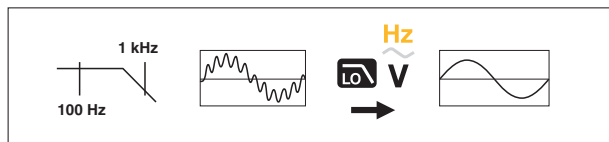

Figure 5. Low-Pass Filter
AC measurements use an ac low-pass filter (LO). The filter blocks unwanted voltages above 1 kHz. See Figure 5. The lower frequency voltages pass with reduced accuracy to the measurement below 1 kHz. The low-pass filter can improve measurement performance on composite sine waves that are typically generated by inverters and variable frequency motor drives.